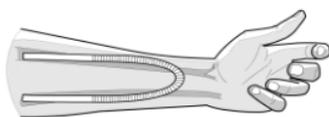

Figure 6. Completed coiled graft positioning
8.5.6. When implanting a coiled graft, insert the other side of the graft repeating stages 8.5.2, 8.5.3, 8.5.4, 8.5.5. Make sure to position the coil segment in a sufficient radius to prevent kinking (see figure 6).